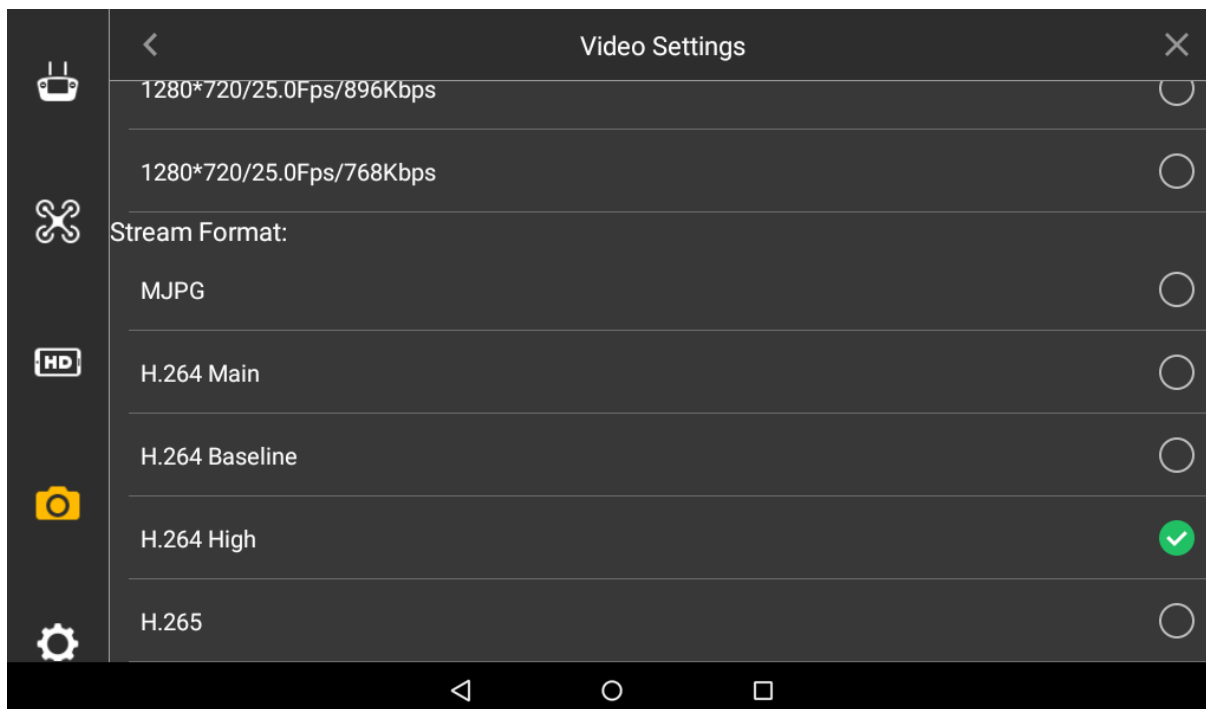

Figure 4-30
- Step 4 Select “Stream Format”, as shown in Figure 4-30.